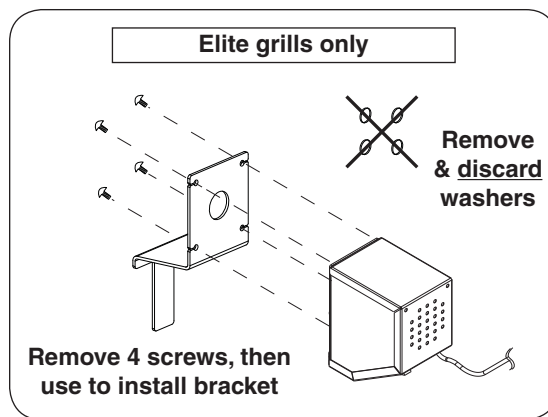

Fig. 4-1 Install bracket to motor (3607G)
1. Remove the four screws from the motor casing. Discard the four washers. Align the motor bracket over the exposed holes. Replace and tighten the four screws. See Fig. 4-1.